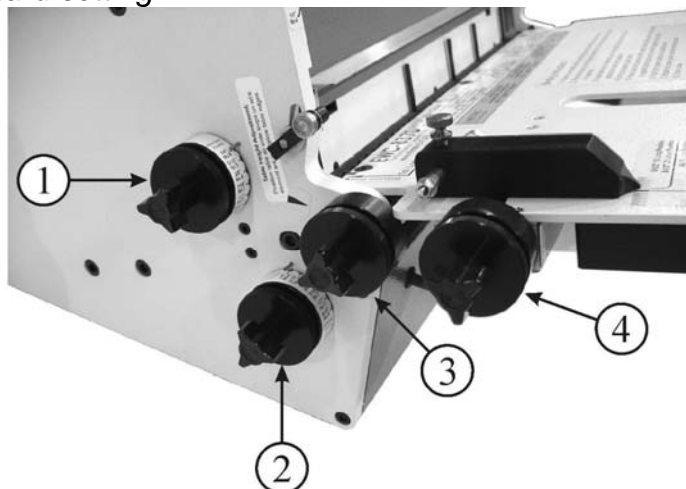

Fig. 11
➤ **Book Stop** See figure 11.
Locate the **table height adjustment knob, fig 11 item 3**. Unlock center, winged knob and turn the outside dial until the wide loops of wire are slightly below table's edge.
Locate the book guide adjustment knob (Figure 11, item 4). Unlock the center, winged knob and turn the outside dial until the book guide indicator is in front of the book length to be bound. If overhanging covers are to be used, offset of book to cover can be obtained by loosening the overhanging cover guide knob and offsetting the contents of book to cover. The alignment of the book to the wire will have to be done manually when using overhanging covers. Retighten when adjusted.
Measured from the first loop of any given wire length to the last loop. If the pitch is too far under, the wire will have to be stretched a slight amount over book stop when element is loaded. Wire should be slightly under pitch. If wire is over pitch adjust the Book Guide (Fig. 11, item 4) to center the book over the length of the wire.